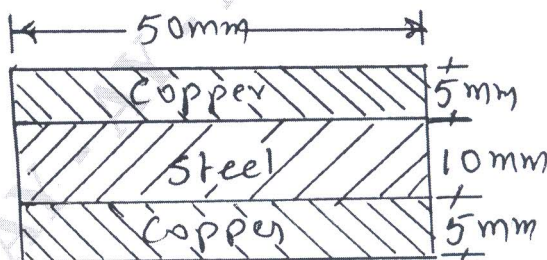

Fig.Q.2(c)
- b. Derive the relation between Young's modulus (E) and modulus of rigidity (G) in the form  $E = \frac{9KG}{3K + G}$ . (06 Marks)
- c. A compound bar is made of central steel plate 50mm wide and 10mm thick to which copper plate of 50mm wide and 5mm thick are connected rigidly on each sides as shown in Fig.Q.2(c). The length of compound bar is 1000mm at room temperature. If the temperature is raised by  $100^\circ\text{C}$  determine stresses in each material and change in length of compound bar. Assume  $E = 200\text{GPa}$ ,  $E_C = 100\text{GPa}$ ,  $\alpha_S = 12 \times 10^{-6}/^\circ\text{C}$  and  $\alpha_C = 18 \times 10^{-6}/^\circ\text{C}$ . (08 Marks)